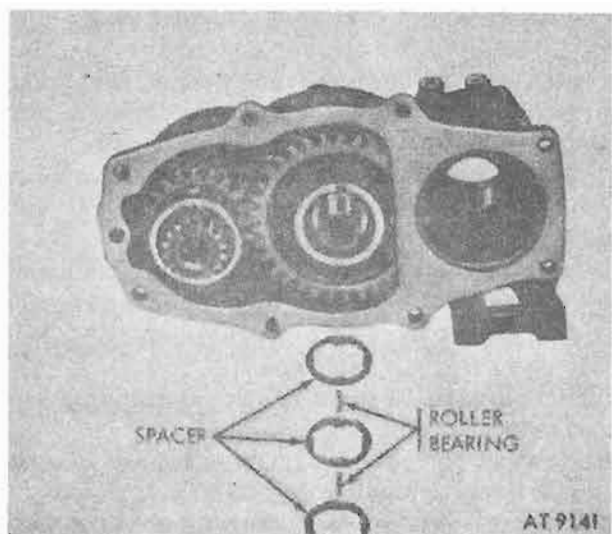
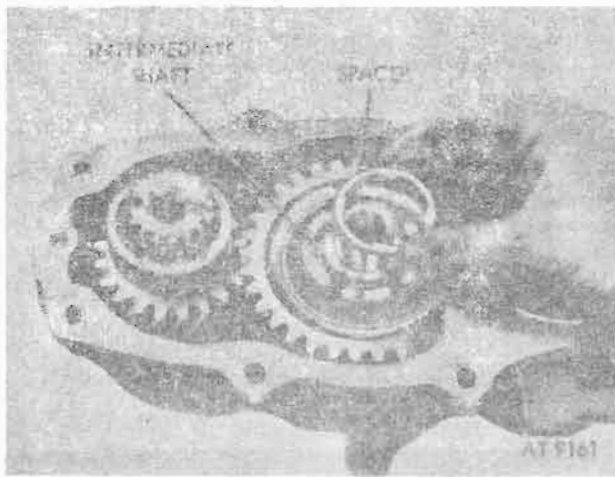

Figure 8-8. Intermediate gear and shaft bearings.
Figure 8-28. Installing top spacer on output shaft.
h. Remove 44 roller bearings and three spacers from transfer intermediate gear and shaft (fig. 8-8).
f. Install bottom spacer and 22 roller bearings around intermediate gear hub. Refer to figure 8-8. Install center spacer and 22 roller bearings and top spacer (fig. 8-28).